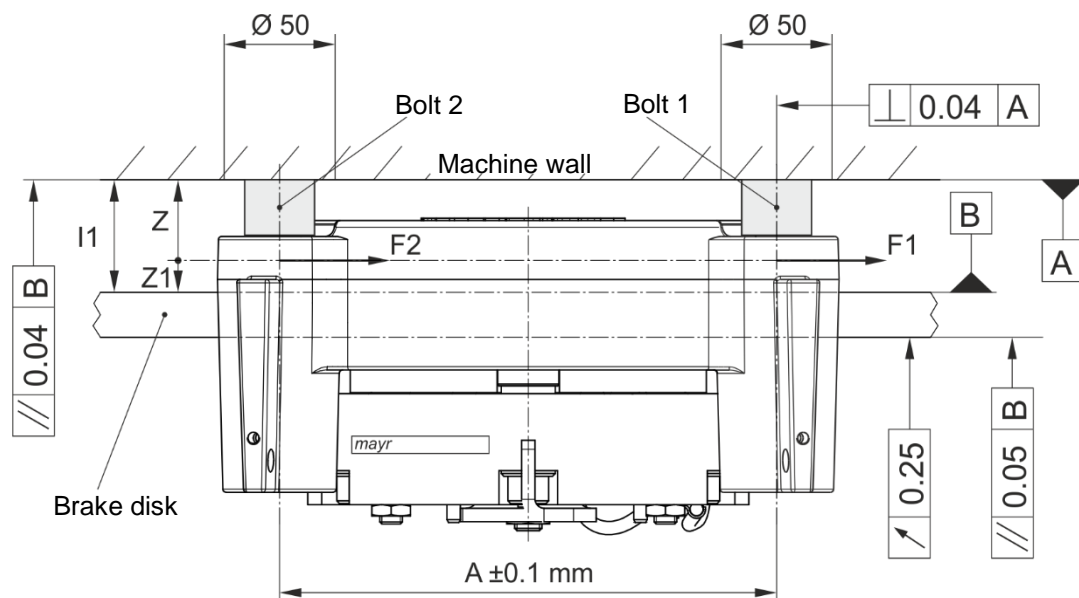

Fig. 14
- ❑ The screw-on surface in the  $\varnothing 50$  mm range (Fig. 14) must be 0.04 mm parallel to the brake disk when the guide bolts are bolted (Type 894.\_ \_ \_ .1/2 \_).
- ❑ The transverse force occurs on the guide bolt of the bearing bushing 1 (3.1). The lever arm which is responsible for the effect on the guide bolt is  $Z = I1 - Z1$  (Fig. 14).